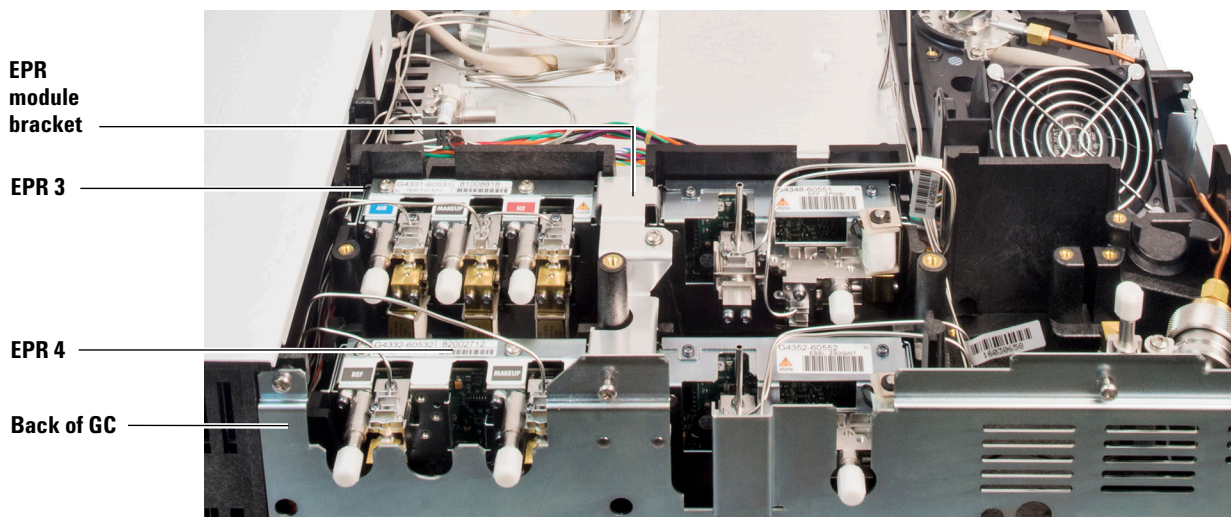

**Figure 8** TCD board connections
- 3 Run the switching valve cable from the switching valve through the provided slots into the electronics compartment on the right side of the GC. Connect the switching valve cable to the switching valve connector on the TCD board. (See Figure 8.)